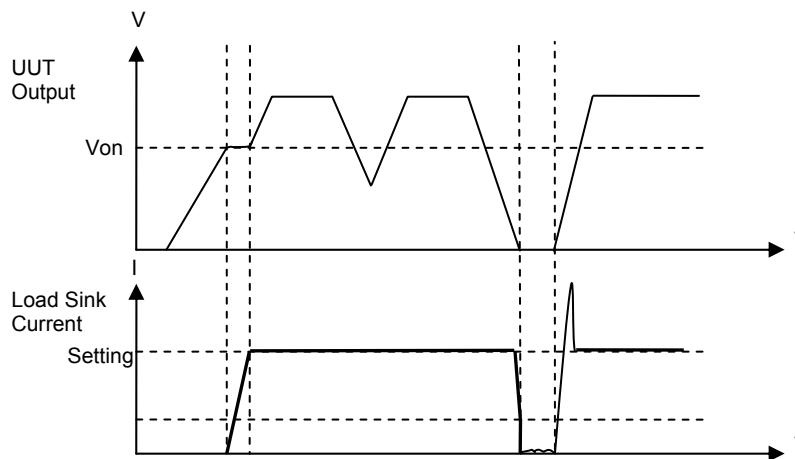

Figure 3-21 Von Point is not set to 0V without Protection
- (4) When it is “LOAD ON”, VON POINT is not set to 0V and Von Protection is disabled, switch the SW to on after it was turned off for a period of time and then turn it off again. The current loading still goes on when there is no power, and overshoot may occur once the SW is turned off with any power input as Figure 3-21 shows. It may damage the UUT and the DC Load in this case.